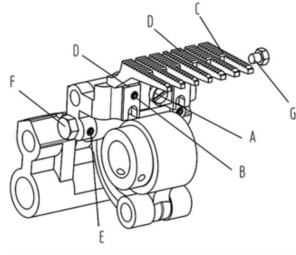

图28 (Fig.28)
送布牙的调整: (图 28)
3.将高度固定销(D)的固定螺钉(B)松开, 调整固定销直到送布牙的底部再锁紧螺钉(B)。(图 28)
For adjustment: (Fig.28)
1.Loosen screw (A) on Feed Dog (C)。
2.Move Feed Gog (C) up and/or down to meet above requirement then tighten screw (A)。
3.Loosen screw (B) and move stop pin (D) upward to the bottom of Feed Dog (E) ,then fighten screw (B) (Fig.28)
布牙(C)与针板平行(图 28)再锁紧螺帽(G)。
Holding screw nut (F) firmly and loosen screw (G) then to adjust screw (E) for the teeth surface of Feed Dogs ,is paralleled needle plate (Fig.28)